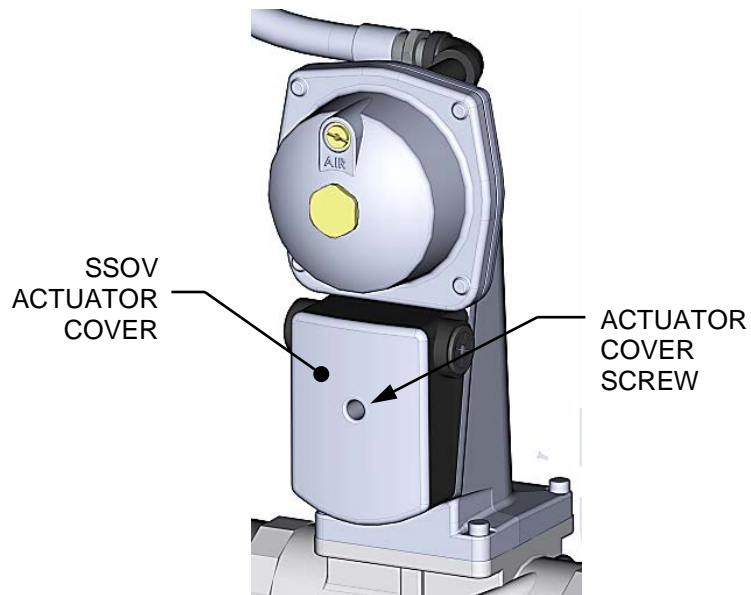

Figure 6-7: SSOV Actuator Cover Location
4. Remove the cover from the SSOV by loosening the screw shown in Figure 6-7. Lift off the cover to access the terminal wiring connections.